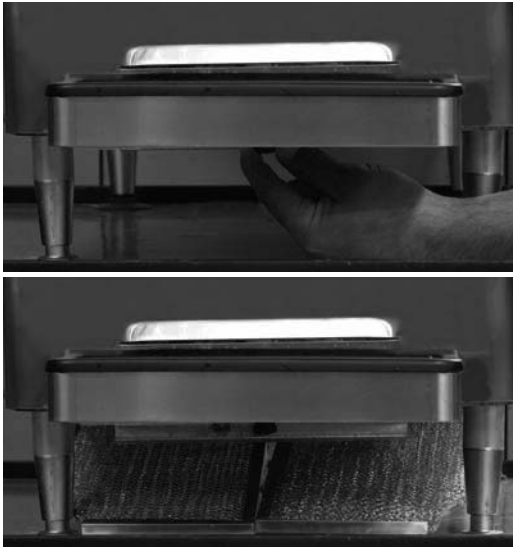

Figure 4-3 E112 Condenser Filter Removal
- A. Unscrew the knob located on the underside of the machine towards the front (Fig. 4-3).